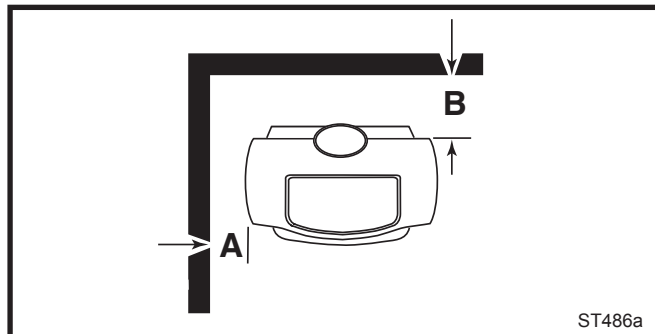

Fig. 13 Minimum clearances.
**Minimum rear clearance from combustible walls (e.g. timber framed or studded walls) 610 mm (24")** measured from the rear edge of the stove top. (Fig. 13, B)
**Minimum side clearance from combustible walls 580 mm (23")** measured from the side edge of the stove top. (Fig. 13, A)